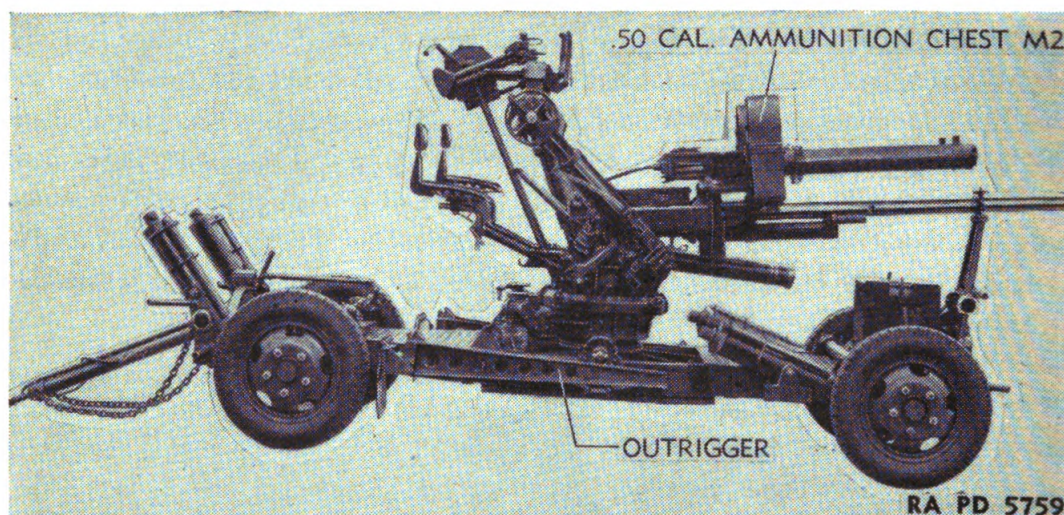

FIGURE 25.—37-mm AA gun carriage M3E1 in traveling position.
**29. Outrigger assemblies (fig. 25).**—Two outriggers attached to the side members of the chassis give stability to the carriage about its longer axis. When in traveling position these outriggers are raised and secured so that they stand upright on each side of the chassis. In firing position the outriggers are lowered so that they bear against the ground. The M3E1 carriage has provisions for carrying the outriggers alongside the chassis rather than in an upright position. The M3A1 carriages are now made so that the outriggers stand upright for traveling. However, if these carriages are made by converting M3E1 carriages, the outriggers will be carried as on the present M3E1 carriages. Side plates which are part of the firing platforms of the M3A1 carriages, must be folded back when raising the outriggers of these carriages.